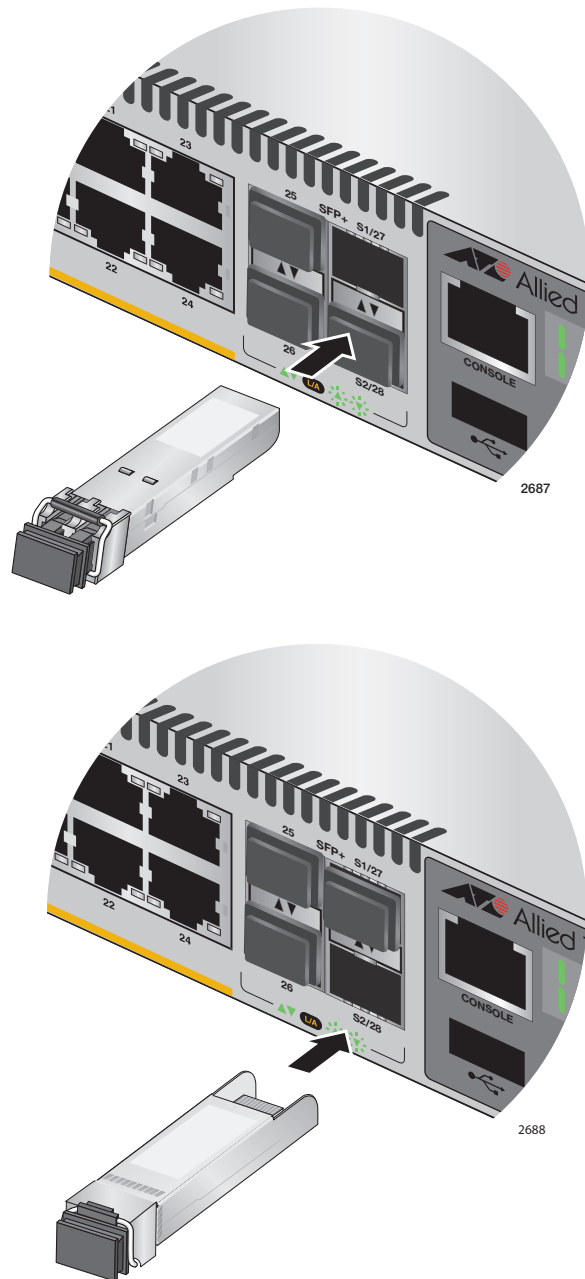

Figure 56. Installing the AT-StackOP/0.3 or AT-StackOP/9.0 Transceiver
3. Slide the transceiver into the slot until it clicks into place, as shown in Figure 56 on page 98.